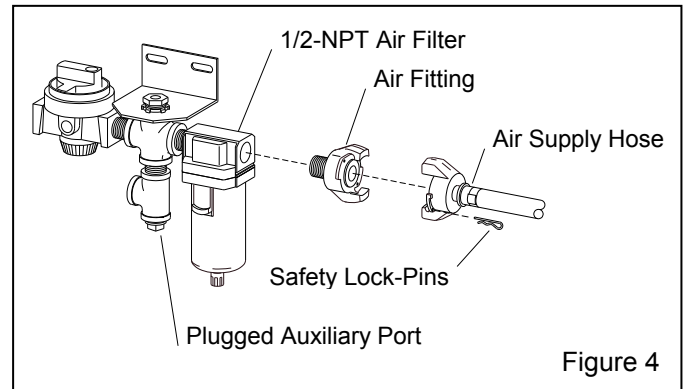

Figure 4
1.9.1 The size of the compressor required to operate the cabinet depends on the size of the air jet and blasting pressure. Unless otherwise specified, cabinets are supplied with a No. 5 (5/32" orifice) jet. Refer to the table in Figure 3 to determine cfm requirements. Consult with a compressor supplier for suggested compressor size based on the air consumption. **NOTE: A separate air line is required for the reverse-pulse dust collector. If preferred, remove the plug from the auxiliary air-port (shown in Figure 4) and connect a 1/4" ID or larger air line to the dust collector pulse reservoir/manifold.**
2.3.1 Refer to Paragraph 2.3.2 to determine the recommended air supply hose size, then refer to Figure 5 and apply thread sealant to the male threads of an air fitting that is compatible with the air supply hose fitting, and install it onto the 1/2-NPT air filter located under the cabinet hopper. **Note that the style of connection shown in Figure 4 is for reference only.**